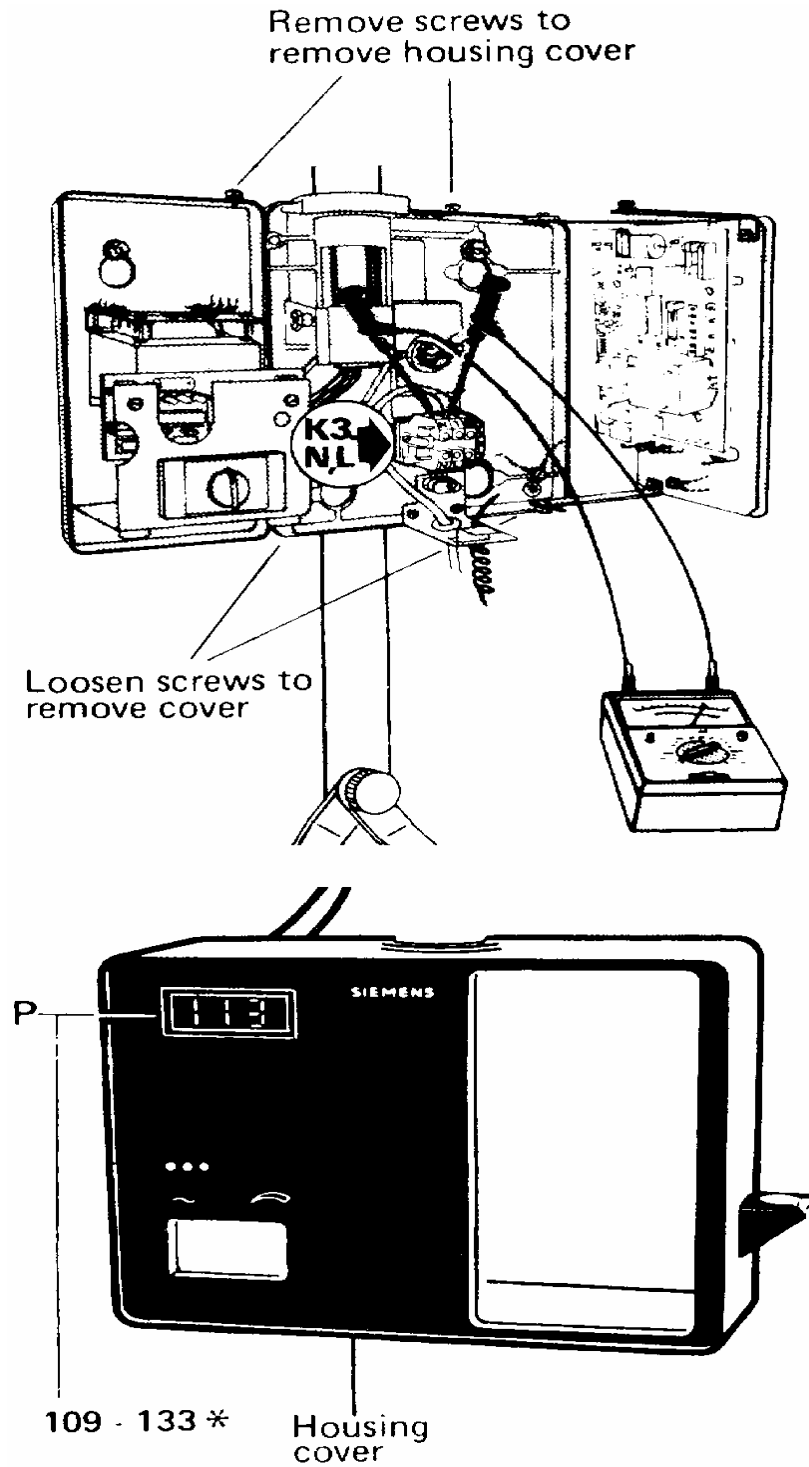

Figure 2-6. Digital voltage meter calibration.
d. Connect the multimeter test leads to terminals K3 N and L on printed circuit board (pcb) D3 (See figure 2-6).